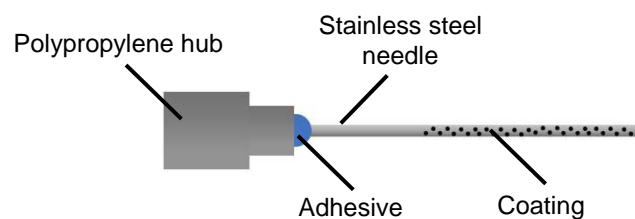

Figure 1
- (c) You have designed a new hypodermic needle system made up of a stainless steel needle with a coating that prevents bleeding after removal. The needle is attached by adhesive to the polypropylene hub, as shown in Fig. 1. You have also decided that steam sterilisation is the most economical sterilisation technique when you start production, based on capital expenditure and expected volumes.